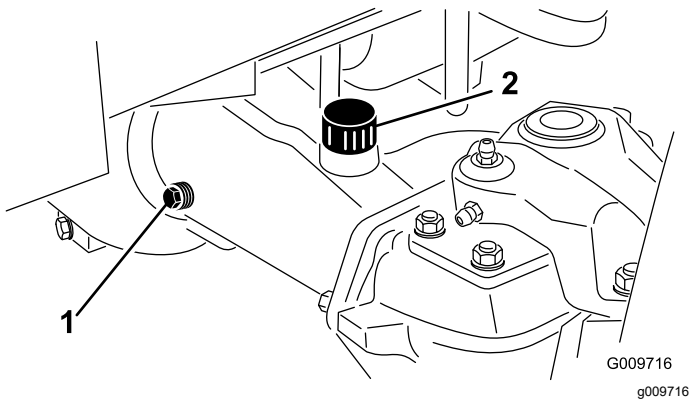

Figure 67
2. Remove a check plug from 1 end of the axle and ensure that the lubricant is up to the bottom of the hole (Figure 67).